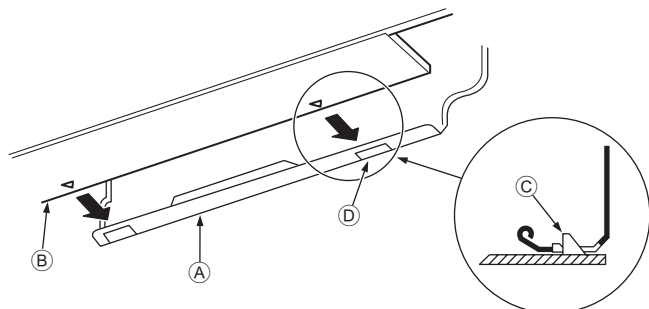

Fig. 3-10
3. While inserting the refrigerant piping and drain hose into the wall penetration hole (penetration sleeve), hang the top of the indoor unit to the mount board ①.
5. Fasten by pushing the bottom part of the indoor unit onto the mount board ①. (Fig. 3-10)